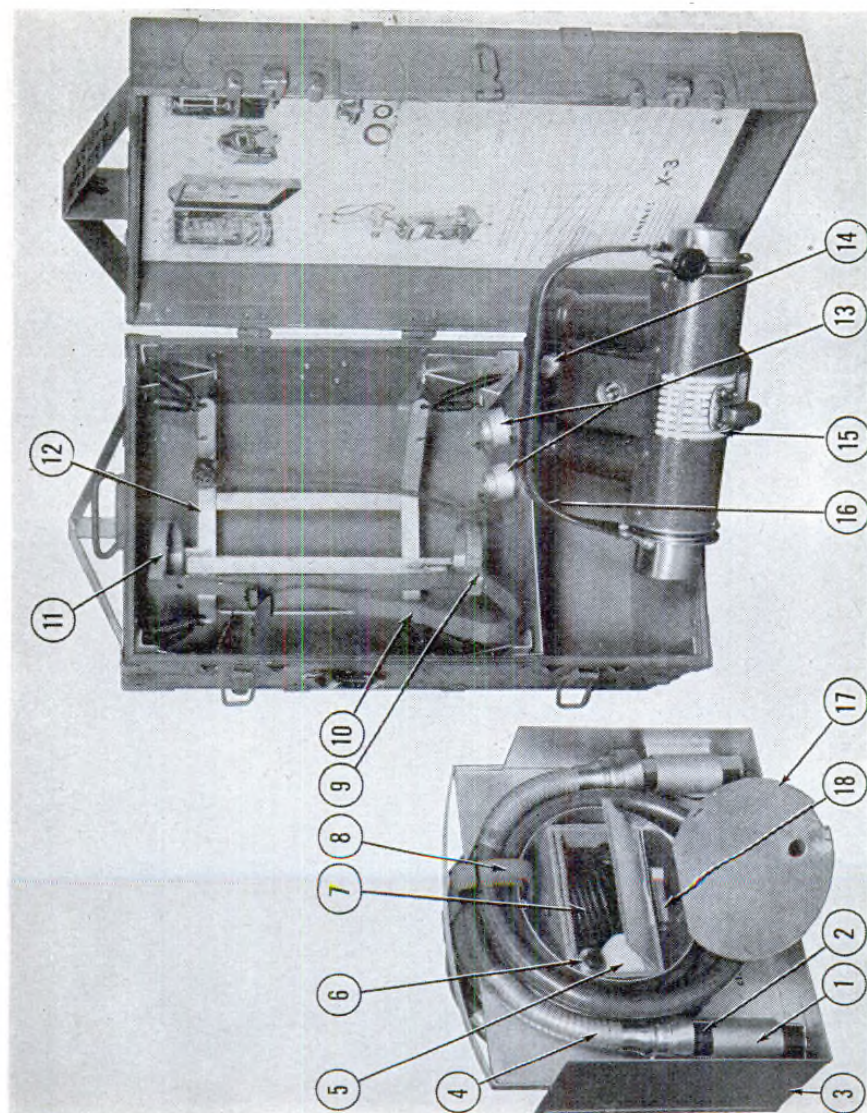

Figure 30. X-ray field unit tube unit, Chest MD X-3, item No. 9608700, cable drawer and tube head removed.
c. CHEST MD X-3 (9608700). (1) Place the chest in a vertical position (fig. 30), open chest and remove the tube head. This is done by first taking out the two cable receptacle plugs and releasing the braided strap from the buckle. A slight pressure on the upper retaining ring (fig. 30, part 11) will release the upper end of the tube. Grasp this upper end and lift upward until the tube is released from its mounting. Take particular care of the two moulded cable receptacles when removing the tube head since they are easily broken when struck by any hard object.
(2) The shockproof cables (fig. 30, part 4), can be removed next by pulling the cable shipping drawer (fig. 30, part 3), out of the chest and placing the drawer as in figure 30. Release the braided strap from the buckle. Pull the cable terminal protectors out of their sockets to the limit of the cord length and unscrew the protectors from the cable terminals.
(3) The blower motor cable (fig. 30, part 7), as well as the aluminum filters and lead aperture plates (fig. 30, part 18), may be removed by opening the cylindrical compartment door in the center of the cable shipping drawer.